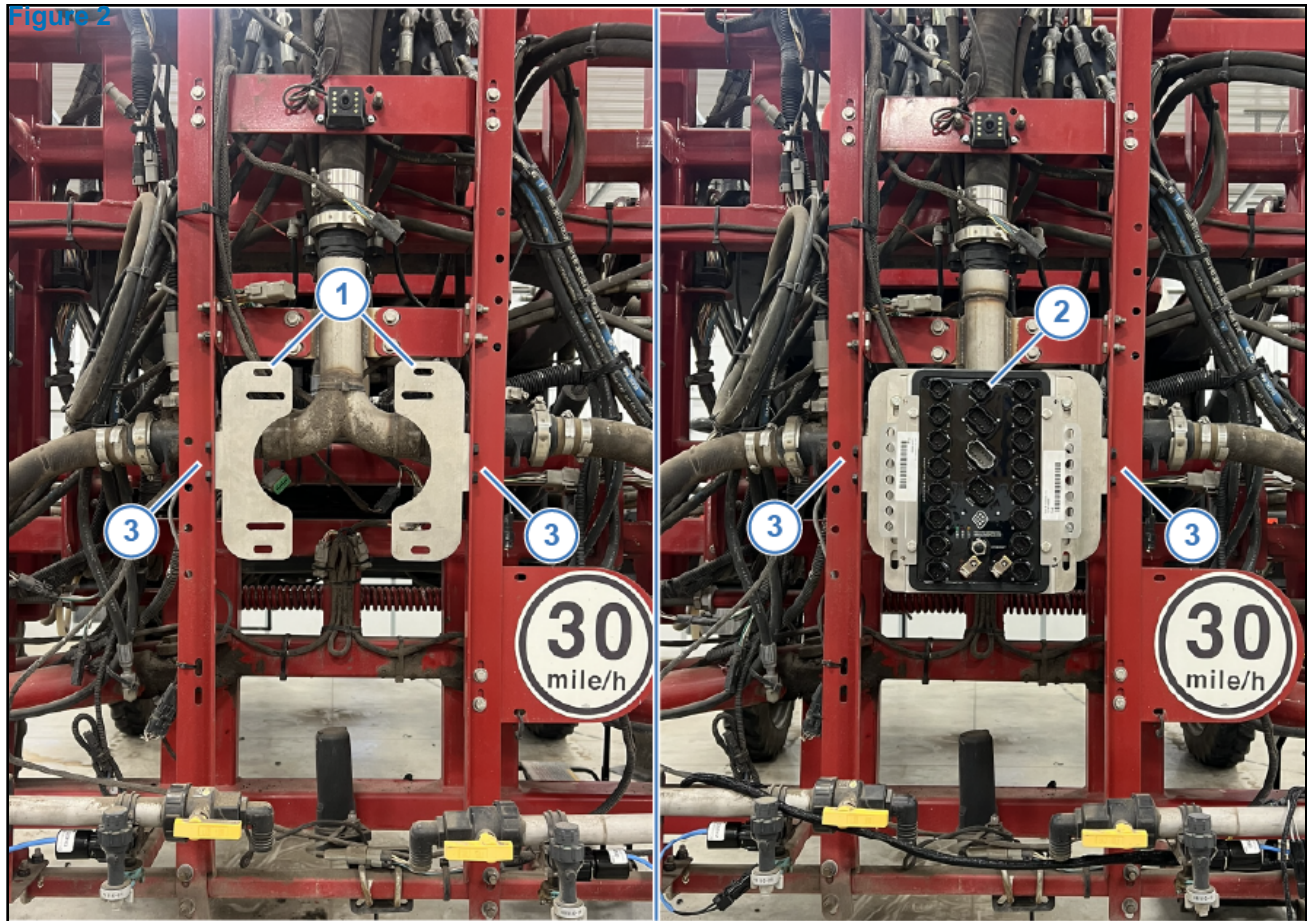
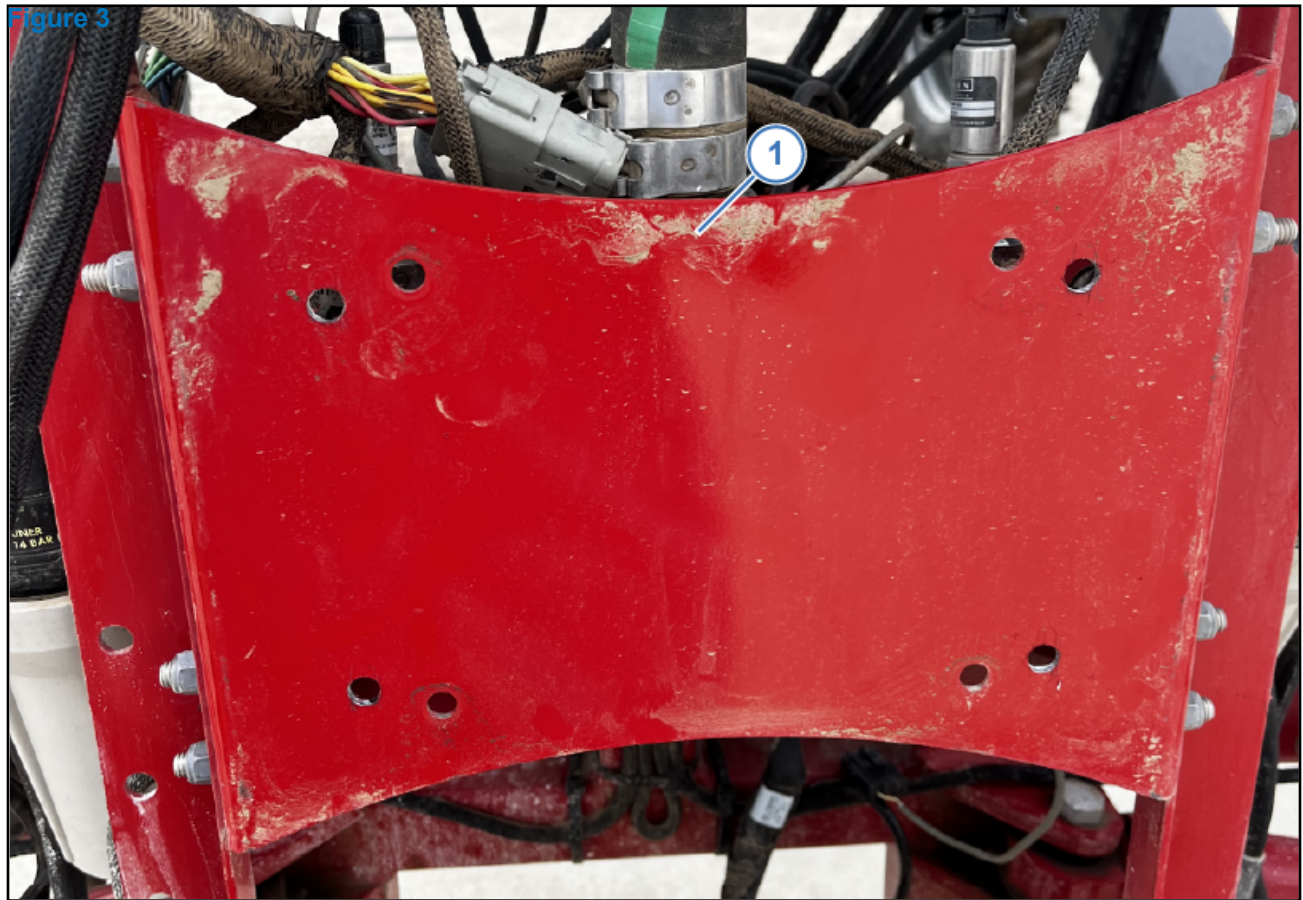

Figure 2: Hub Mounting (Without Aim Command)
Figure 3: Hub Mounting (With Aim Command)
Install hub mounts (Figure 2, Item 1) to the vertical brackets on the rear rack of the machine using the provided hardware. Install the hub (Figure 2, Item 2) onto the hub mounts.
Note: The hub mounts may need to be mounted to the outside of the vertical brackets (Figure 2, Item 3) on certain models to allow the hub mounting plate holes to align with the mount holes.
4. If the machine was equipped with an Aim Command system, the hub mounts (Figure 2, Item 1) will not be used. Holes will be match-drilled into the existing rear rack plate (Figure 3, Item 1) using the hub mounting plate. The hub plate will mount directly to the rear rack plate.